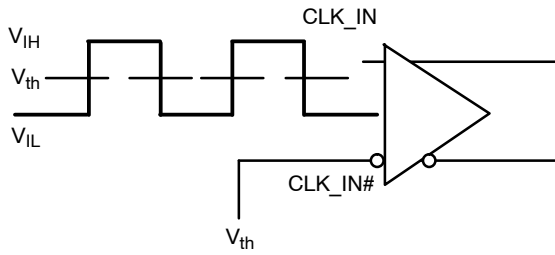

Figure 4. Differential Input Driven Single-Ended
**DIFFERENTIAL INPUT DRIVEN SINGLE-ENDED** (Note 6) (Figures 4 and 6)